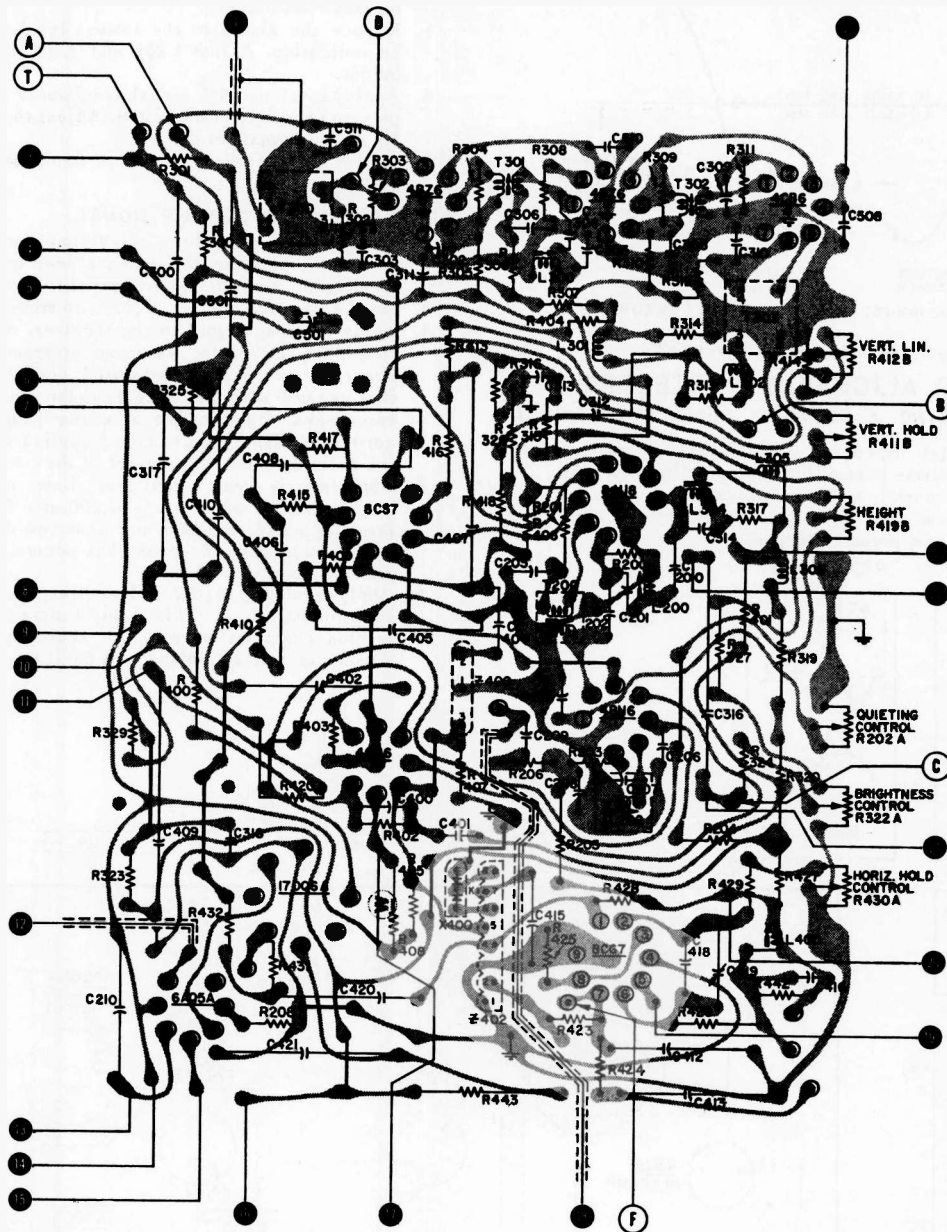

Figure 13 - Bottom View of Printed Board Showing Top Components as Schematic Symbols
3. Apply a 4.5 mc FM signal (deviation approximately 7.5 kc) to video test point B. (Figure 13.)